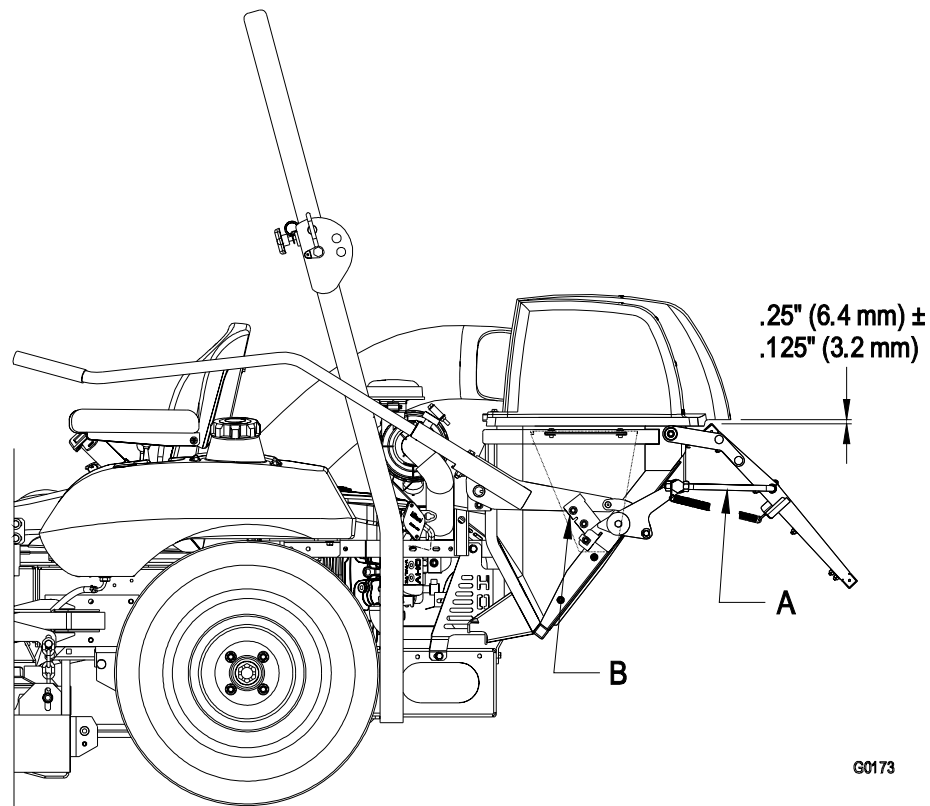

FIGURE 9
- 3.7.1 **Door closing:** The closing of the door is controlled by the two hinge links (Figure 9 – A). The length of the hinge links can be changed to provide complete closing of the door and reasonable force on the handle to latch or unlatch the door. Lengthen the links to reduce the force. Shorten the links to increase the force. The left and right sides must be approximately equal. With the door closed, both links should be slightly tight to minimize rattling.
- 3.7.2 **Door opening:** After adjusting the hinge links for door closing, the hinge stops (Figure 9 – B) can be adjusted to obtain maximum door opening. The stop plates should be adjusted so that the door link contacts them when the upper tube of the door frame is within $.25'' (6.4 \text{ mm}) \pm .125'' (3.2 \text{ mm})$ from the lower lip of the molded hood. Both left and right stops must make contact when the door link arm is at this position.
- 3.7.2 **Door opening:** After adjusting the hinge links for door closing, the hinge stops (Figure 9 – B) can be adjusted to obtain maximum door opening. The stop plates should be adjusted so that the door link contacts them when the upper tube of the door frame is within .25" (6.4 mm) ± .125" (3.2 mm) from the lower lip of the molded hood. Both left and right stops must make contact when the door link arm is at this position.